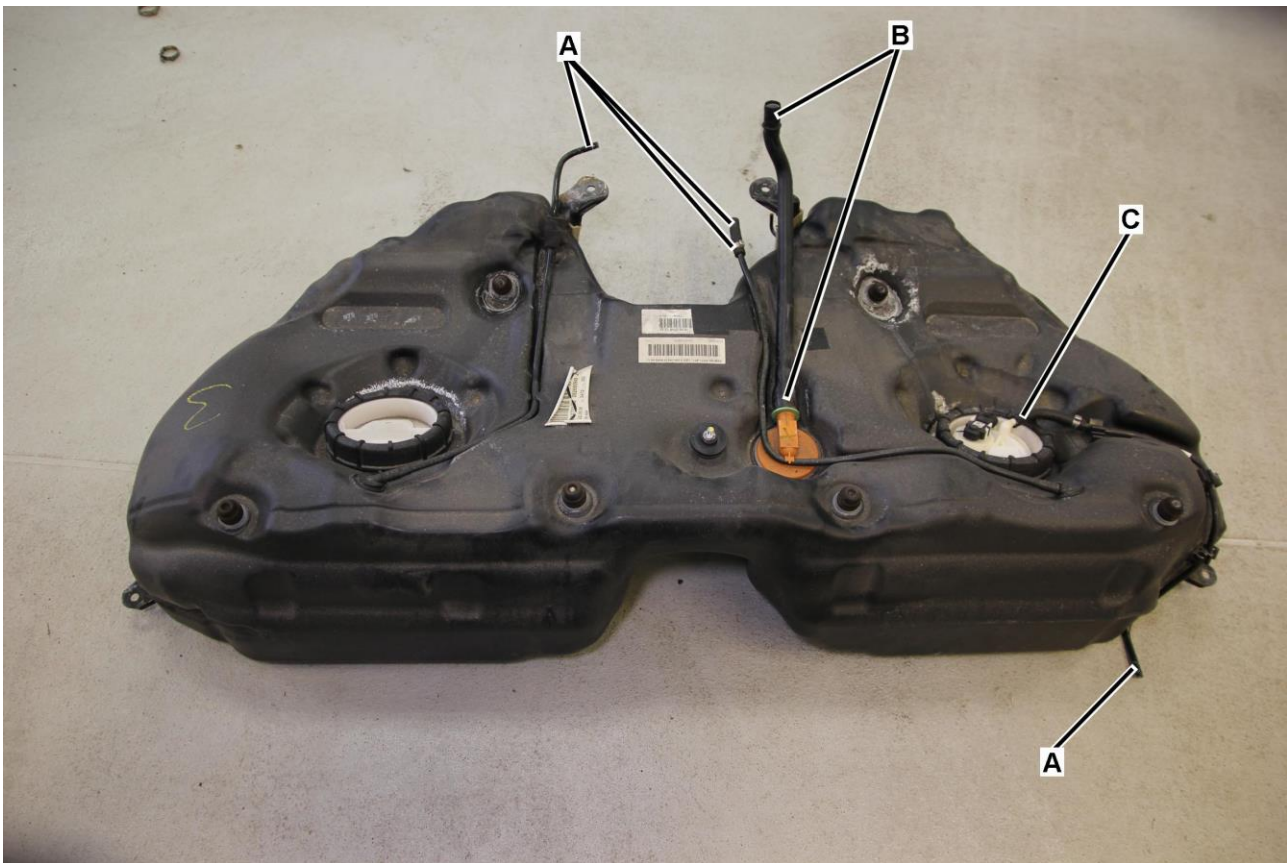

Figure 2 (shown on model 211.056 installation locations on other models may vary)
- Refer to Figure 2 for location of clic® clamps according to part number.
Legend for Figure 2